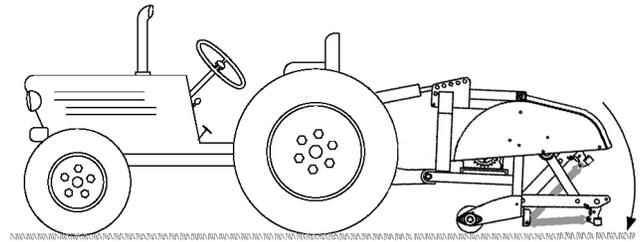

Figure 13
4. Lower the aerator to the ground and fully extend the hydraulic top link cylinder or upper link (Figure 13).